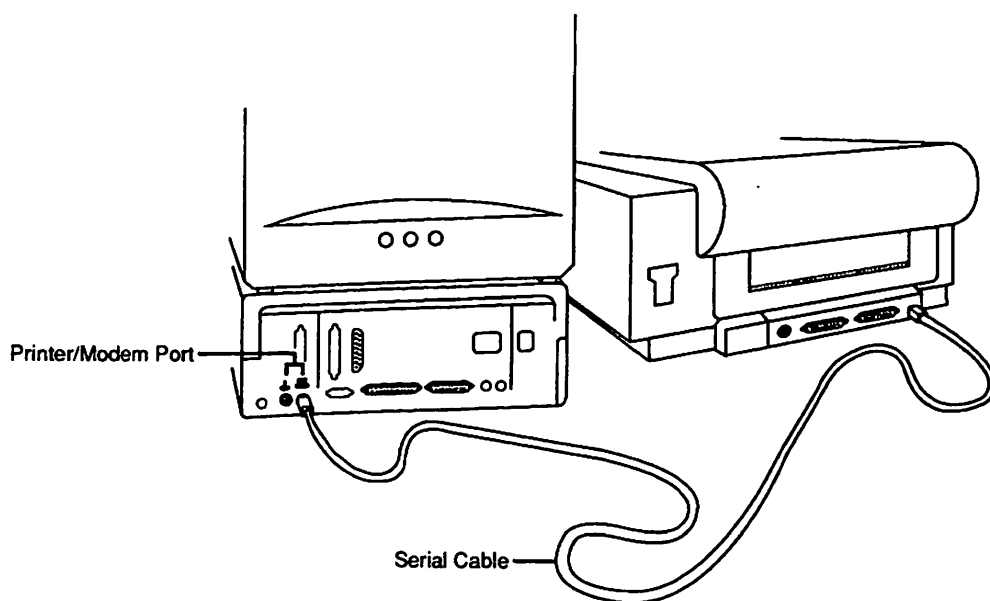

Figure 3-3
3. Connect the other end of the serial cable to the printer (or modem) port on the computer, as Figure 3-3 shows.